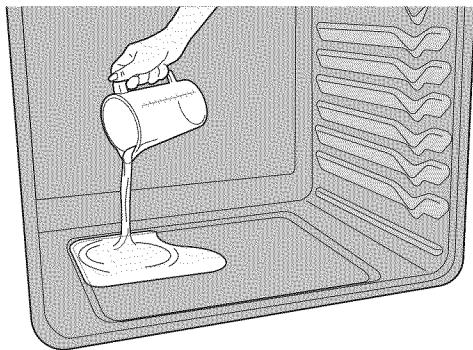

Figure 18: Add 8 ounces of distilled water
3. Pour 8 oz (235 ml) distilled or filtered water onto the oven bottom (Figure 18). Close the oven door.